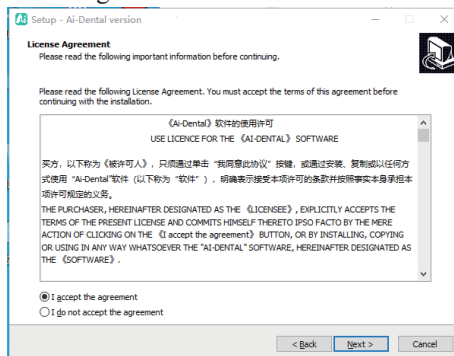

Figure 5
d) Read the license agreement. The user chooses whether to agree to this agreement, if the user agrees, click the "Next" button, do not agree, cancel the installation, as shown in Figure 5: